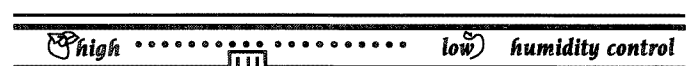

Figure 10
- Slide control to high humidity setting for leafy vegetables such as lettuce, spinach or cabbage. See Figure 10.
- Slide control to low humidity setting for produce with skins, such as apples, oranges or tomatoes. See Figure 10.